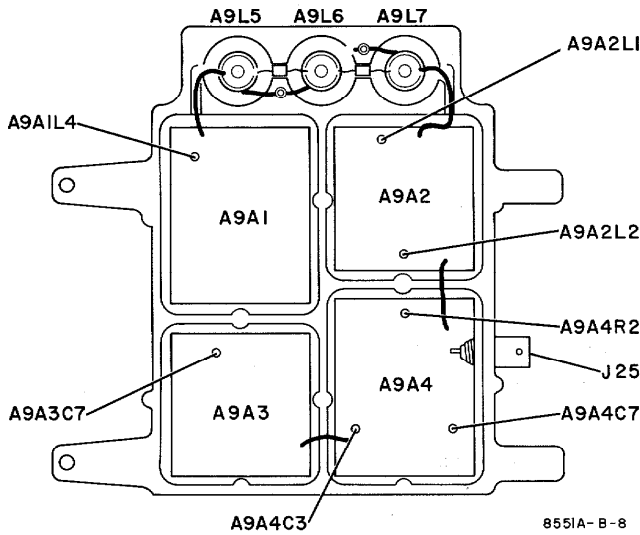

Figure 5-8. Location of Adjustments in A9 Converter Assembly
b. Locate Converter Assembly A9, top right-hand side of 8551 (see Figure 7-2); also locate 1800MC DRIVER OUTPUT Connector J25 (see Figure 5-8).
- c. Hold pickup loop just close enough to A9A3 board (Figure 5-8) to get a reading on counter.